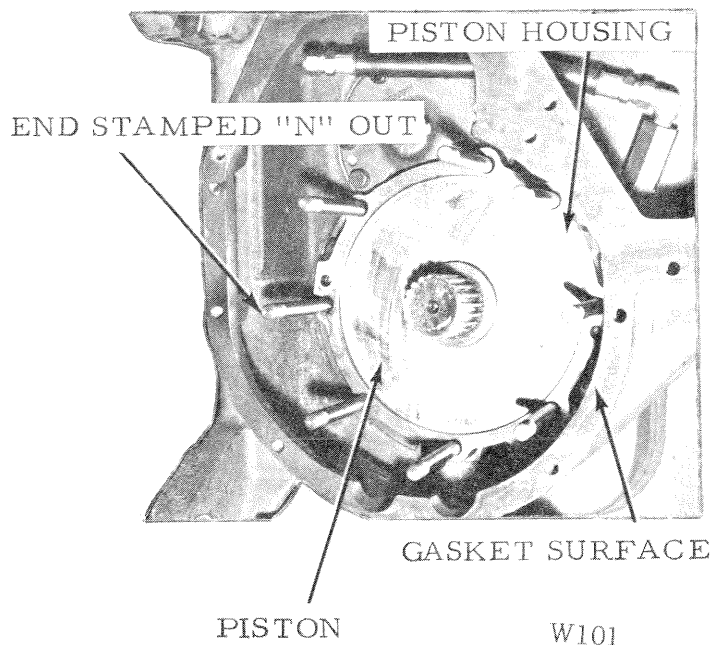

Figure 10
should not extend past the left gasket surface, and the end stamp "N" must be out. Fig. 10.
b. Lubricate the piston O-ring, seal ring and piston housing counterbore. Carefully work the piston into the piston housing counterbore. Slide the assembly over the mounting studs and against the winch. Fig. 10.